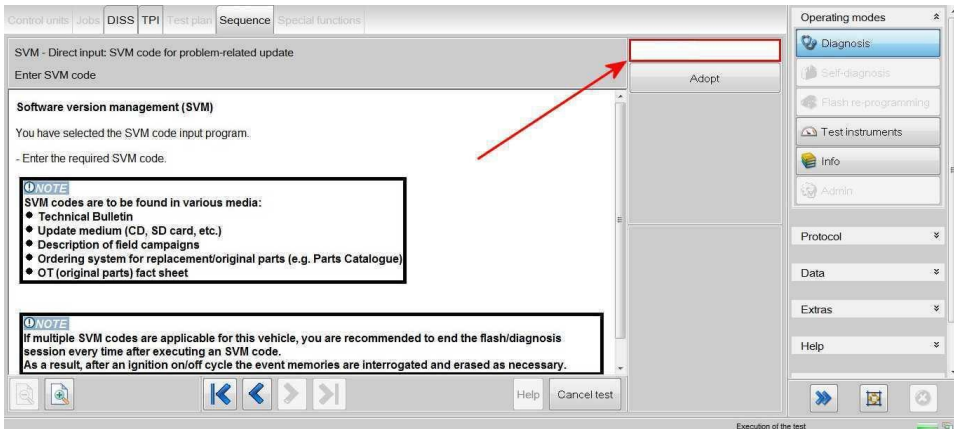

Figure 4
2) On the next screen enter SVM code 4V0RTW01 (Figure 4)